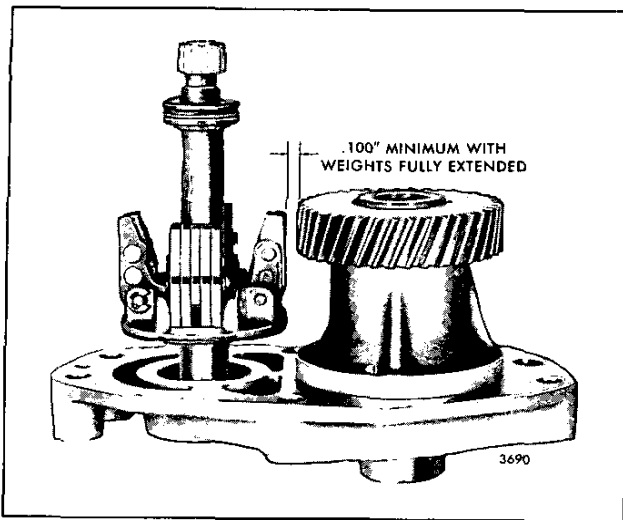

Fig. 18 – Minimum Clearance Between Blower Drive Gear and Governor Weights
7. Check the clearance between the fully extended governor weights and the blower drive gear. This clearance must not be less than .100" (Fig. 18).